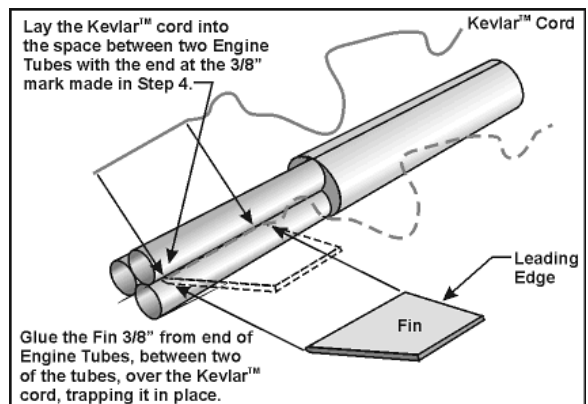

Figure 10
- Referring to **Figure 10**, run a 2" bead of glue in the notch between two Engine Tubes, beginning at the 3/8" mark made in Step 4. Place a knot in one end of the provided **Kevlar® cord** then lay this cord into the glue bead, with the knot at the 3/8" mark. Now, place a generous bead of glue along the entire Root edge of one fin and place this into the crevice, covering the cord and securing it in place. Make sure this fin is straight and dry before going on to the next step. (**NOTE:** The cord should be loose and free to move from the leading edge of the fin, forward)